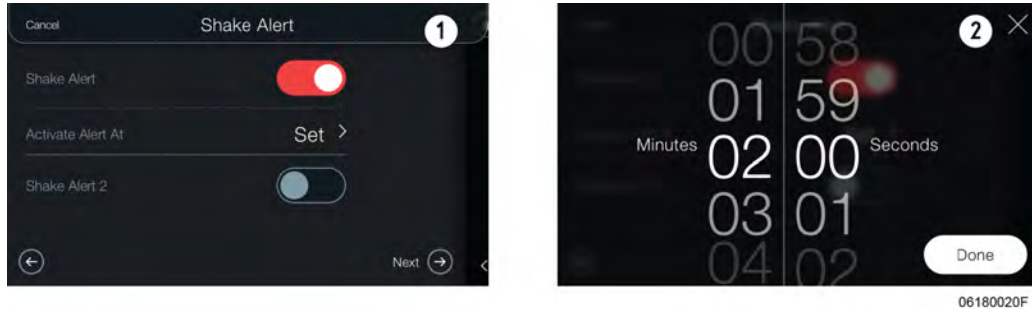

Figure 5-12
5. **Shake Alert** - The shake alert provides an alarm to remind team members to lift the basket and shake to separate the food item within the fry basket. To add a shake alert, tap the toggle switch on the display to reveal the shake alert settings, see (1) in Figure 5-12 , page 48. Tap **Set** next to **Activate Alert At**. Swipe up or down to select the time remaining on the timer when the alert sounds. For example, if you have a 3:00 cook cycle and want to set a shake alarm to sound after 30 seconds, set the Activate Alert